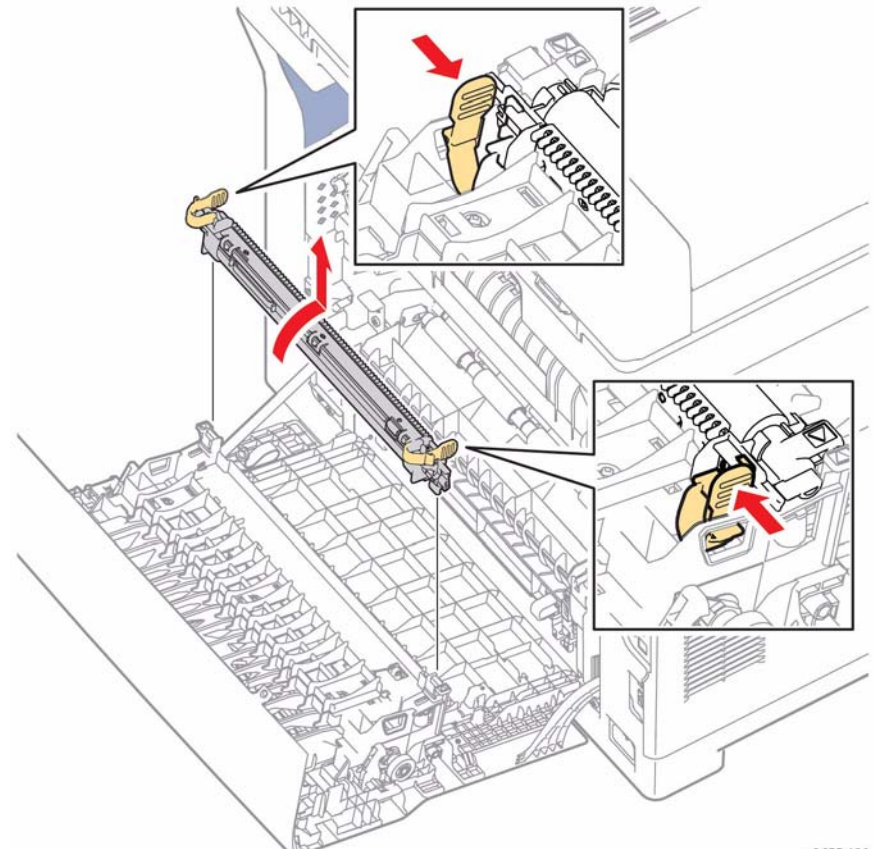

Figure 1 Remove the Transfer Roller
2. Refer to Figure 1 to locate and release 2 clips and rotate the Transfer Roller up to remove.